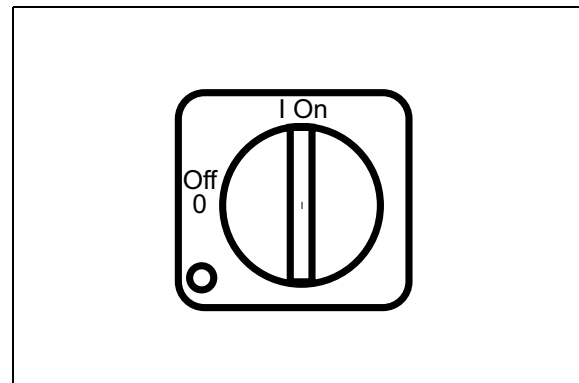

Figure 8-2: Control Switch
3. Turn the control switch to the "on" position (Figure 8-2). The control box door must be completely closed. The unit begins to power up. Powering up takes approximately 45 seconds. The following error message appears in the upper-left corner of the graphics display window: "Com Err Stn 1." This message will disappear when the controller has finished powering up.
3. Turn the control switch to the “on” position (Figure 8-2). The control box door must be completely closed. The unit begins to power up. Powering up takes approximately 45 seconds. The following error message appears in the upper-left corner of the graphic display window: “Com err stn 1.” This message will disappear when the controller has finished powering up.